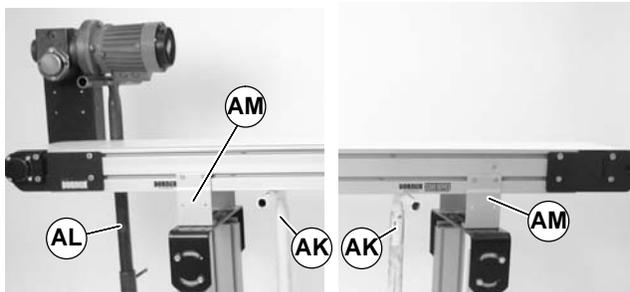

Figure 20
1. Place temporary support stands (AK of Figure 20) at both ends of the conveyor. Place an additional support stand under the drive motor (AL), if equipped. See **WARNING**.
2. Remove mounting brackets (AM of Figure 20) from one side of conveyor. (Reverse steps 3 & 4 of "Mounting Brackets" section on page 6).
- Ensure temporary support stands (AK of Figure 20) are placed at both ends of the conveyor. Place an additional support stand under the drive motor (AL), if equipped. See WARNING.